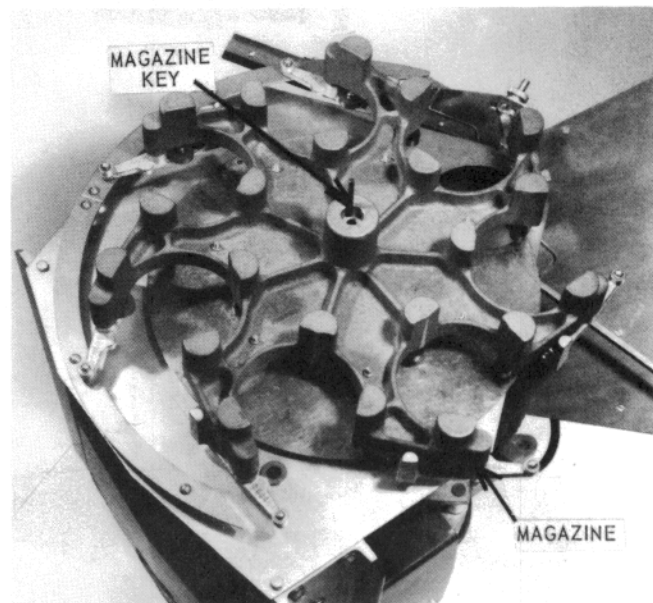

Figure 85 — Magazine and Magazine Key
- 7.1.2 Pull up on the magazine and remove it. The magazine key will be exposed and should be removed to avoid losing it (see Figure 85).